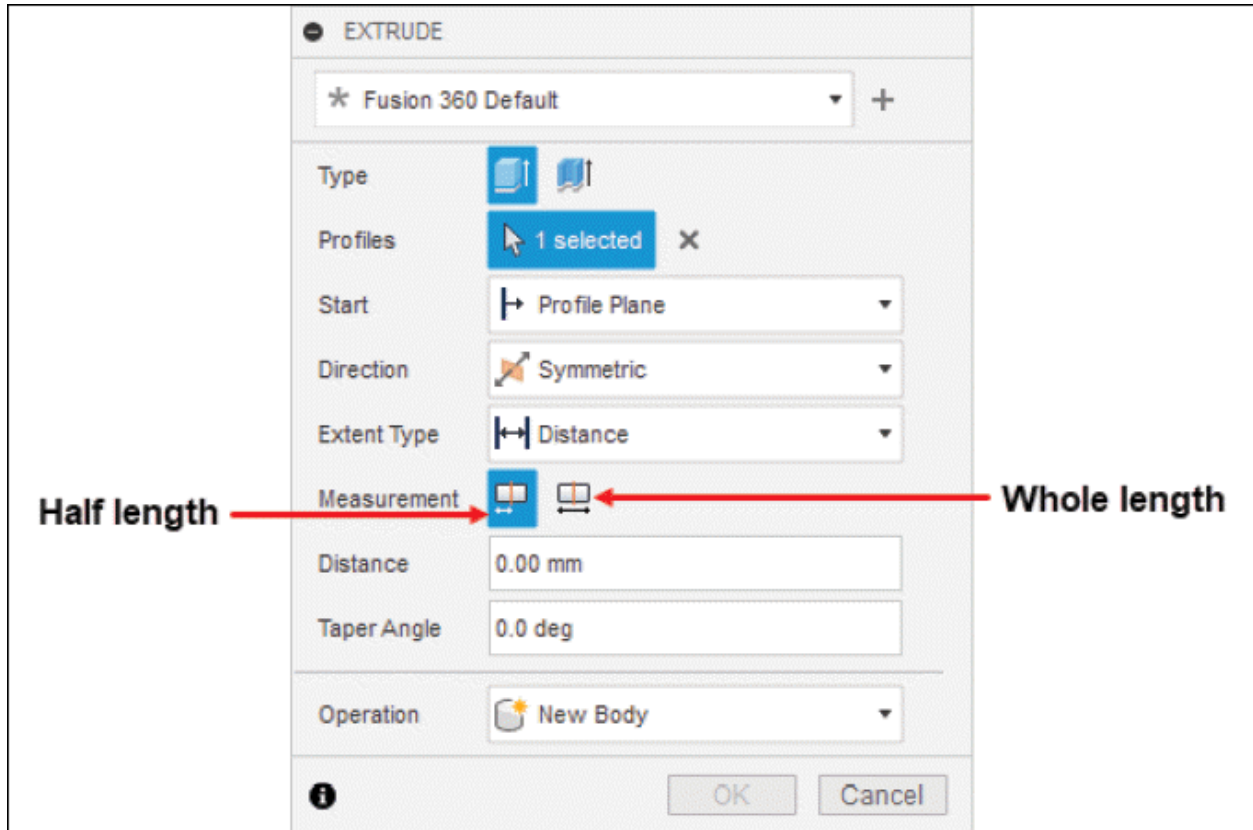

Figure-39. Extrude with symmetric direction
- Select **Symmetric** option from **Direction** drop-down if you want to specify the height of extrusion symmetric in both upward and downward directions of sketching plane. You will be asked to specify height of extrusion for one side and the profile will be extruded symmetrically on the other side with same value. Select the **Half length** or **Whole length** button from **Measurement** section as required; refer to Figure-39.